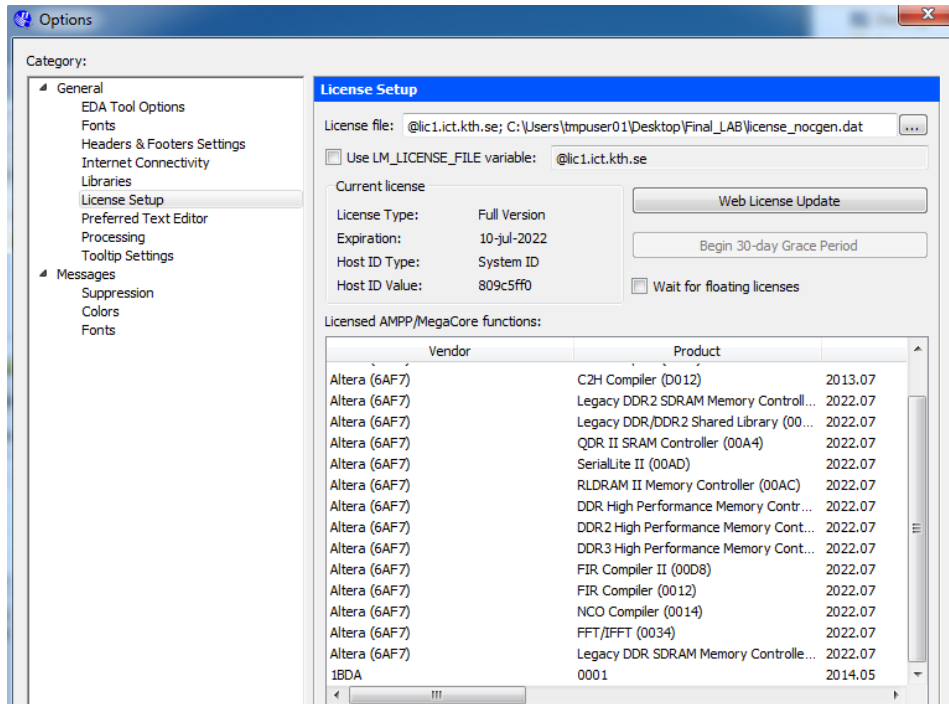

Figure 2.19.: Setup the NSG license in Quartus
5. once you are back in the Quartus main window, click on Tools – License setup to access the License manager. As shown in the top of Figure 2.19, add the path to the license\_nocgen.dat file in the License file field and check that the Vendor 1BDA Produce 0001 is in the list of licensed functions. You can find the license\_nocgen.dat file in your Final\_LAB folder;